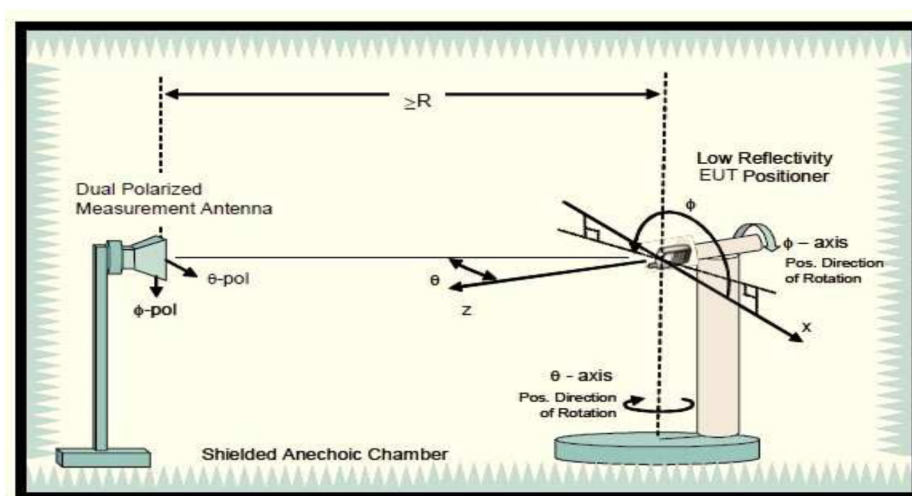

Figure 2. Configuration of Conical circle cut test system.
- c. Configuration EUT transmitting packages (SW: iperf) to the communication emulator in Beamforming mode. Please refer to figure 2 for detail configuration.